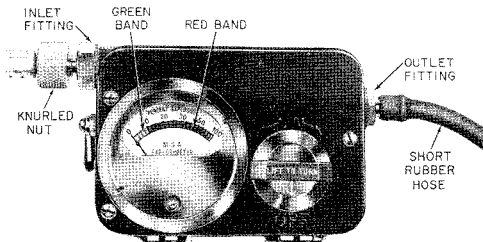

Fig. 2—Location of Fittings—B Gas Indicator
**3.02 Test for Gastightness:** Test the aspirator bulb, its short hose, and the indicator to determine if all are gastight and the bulb outlet valve is operating properly. See Fig. 2 for location of various fittings. Place one finger over the inlet fitting, squeeze and release the bulb. The bulb should remain deflated for at least 10 seconds. If it does so these items are satisfactory, proceed to 3.05 to test the filter. If the bulb inflates in less than 10 seconds, there is a leak either in the aspirator bulb, its short hose, or the indicator which must be corrected before the indicator is used. Proceed as described in 3.03.
**4.03** The meter face of the indicator is color coded, as shown in Fig. 2, with a green band from 0 to 10 percent and a red band beyond 10 percent. These colors indicate satisfactory and unsatisfactory atmospheres, respectively, as discussed in Section 620-140-501.